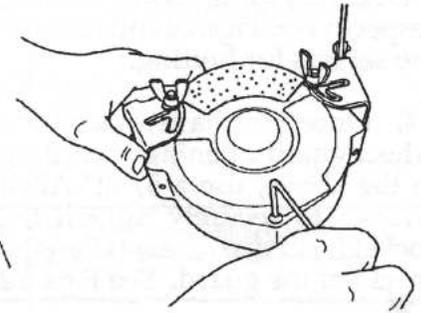

Fig. 18
19. Use a 5/32" Allen wrench to securely tighten the cap screw (22), as shown in Fig. 18.